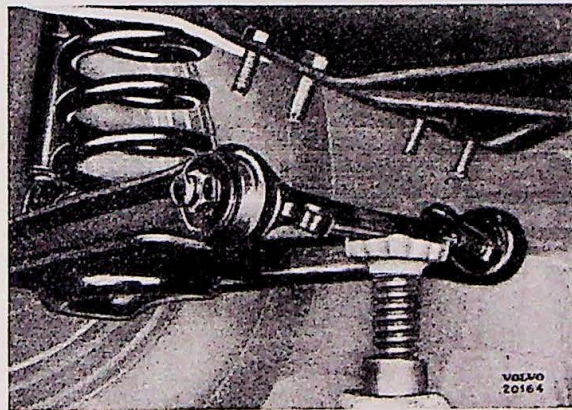

Fig. 16.
Remove the lower control arm after having blocked up the front end of car in the usual way, by removing the wheel, disconnecting the stabilizer at its anchorage (11 fig. 4) in the control arm, and placing a jack under its inner anchorage in accordance with fig. 16. Loosen screws (29 fig. 2) attaching the pivot shaft (28) to the cross member, lower the jack and remove the spring. Disconnect the control arm from the steering knuckle support.